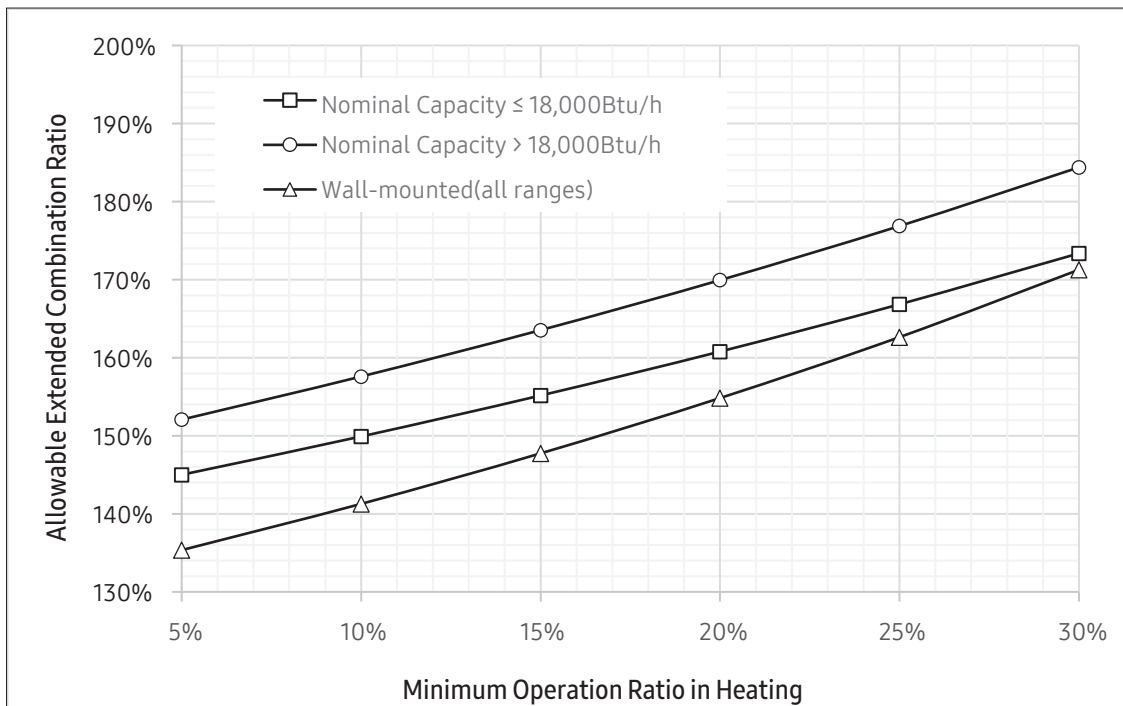

Fig. 2 Allowable CR with respect to indoor unit type as operation ratio increases
The Minimum Operation Ratio should be determined during the project design stage using Fig. 2.
- Lennox is not responsible for any issue, including abnormal noise that arises during heating operation due solely to the operation rate being lower than the designated combination ratio shown in Fig. 2. Please contact your local Lennox representative for further details if the project requires you to design the project with a connection ratio greater than 130%.